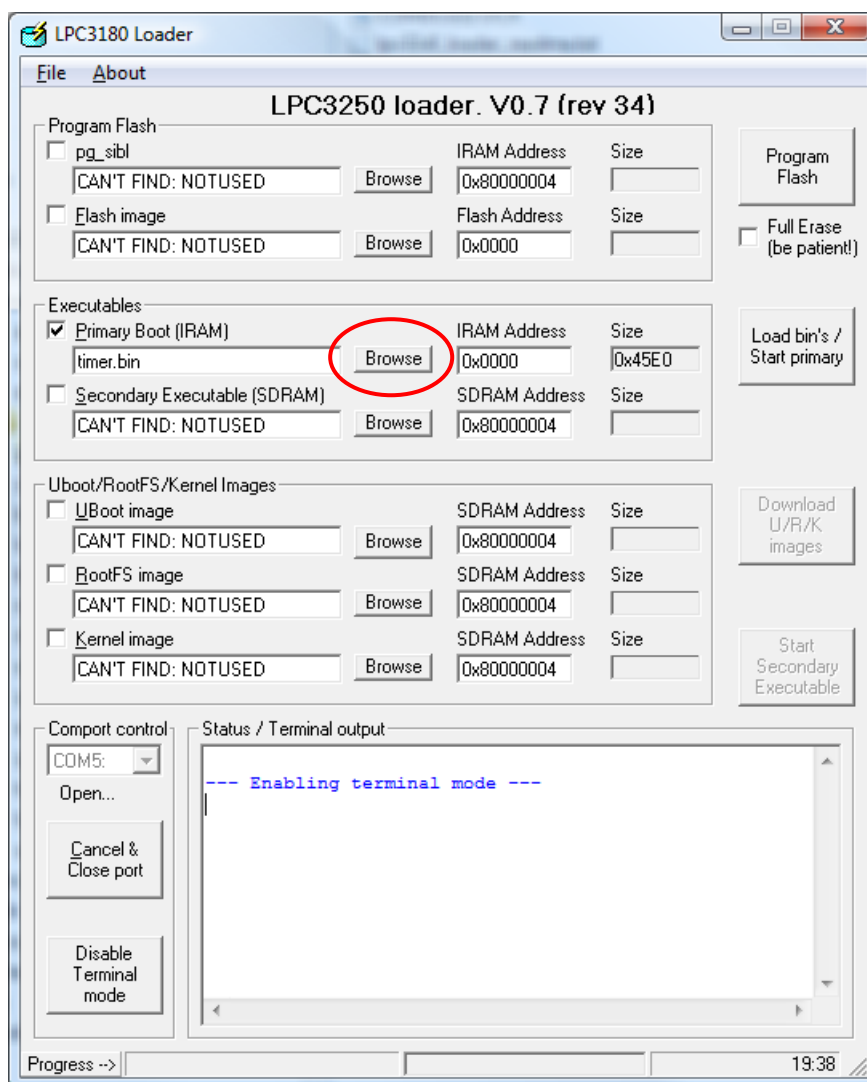

Figure 33 – LPC3250 loader application
1. Start the LPC3250 loader application, see Figure 33.